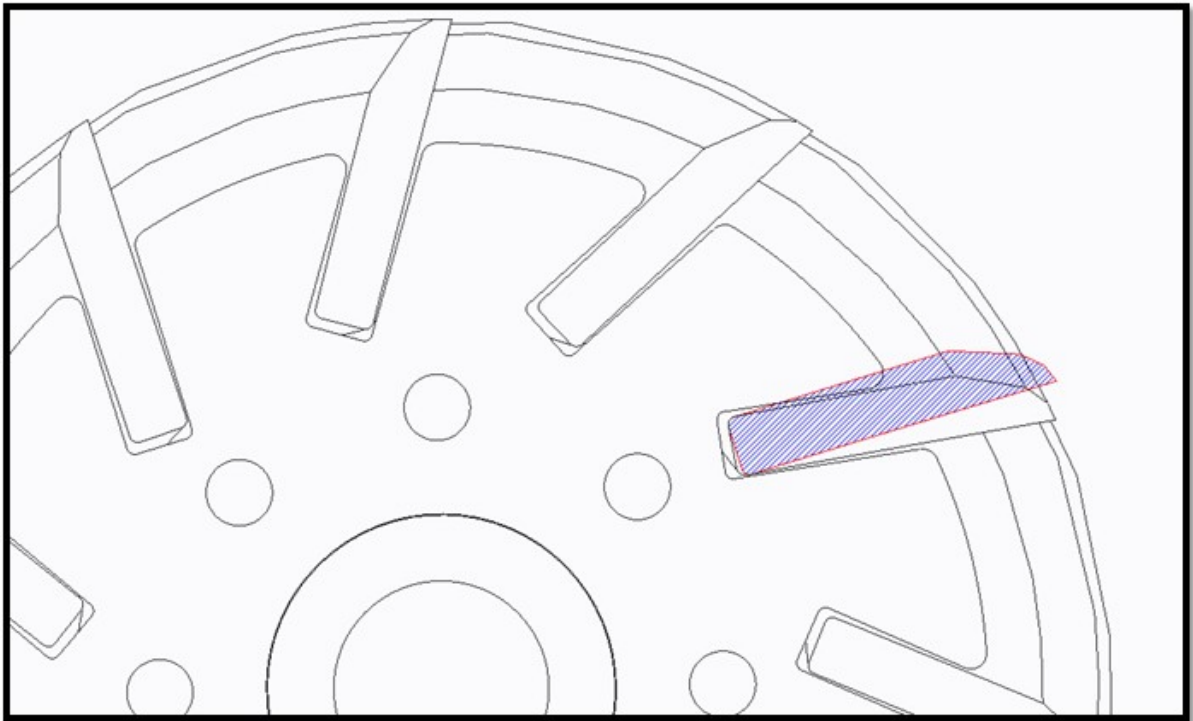

Figure 3
3. The FSR design is more prone to damage since the reel outside diameter "grows" during impact conditions versus the radial reel design, and thus having a lead-in chamfer is more important. See Figure 3